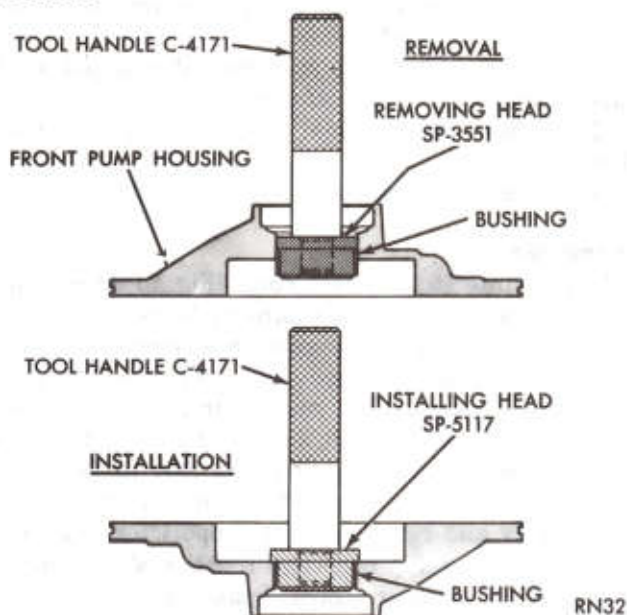
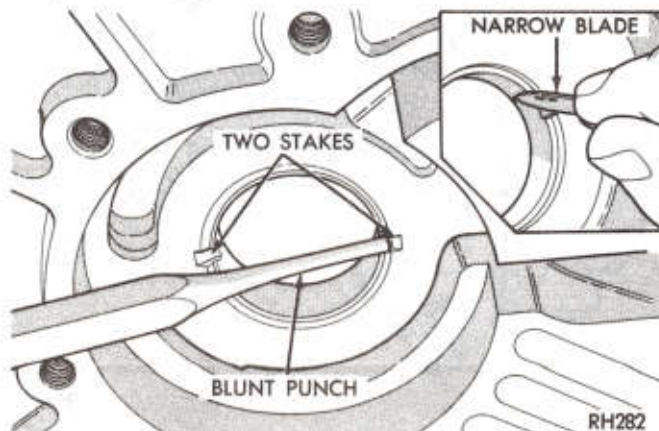

Fig. 10—Replace Pump Bushing (A-904T and A-999)
Fig. 11—Stake Pump Bushing (A-904T and A-999)
(1) Place pump housing (seal face down) on a smooth firm surface.
(2) Place removing head, Tool SP-3551 in bushing and install handle Tool C-4171 in the removing head (Fig. 10).
(3) Drive bushing straight down and out of pump housing bore. Be careful not to cock tool in the bore.
(4) Position new bushing on installing head Tool SP-5117.
(5) With pump housing on a smooth, clean surface, start bushing and installing head in the bushing bore. Install handle in the installing head (Fig. 10).
(6) Drive bushing into housing until tool bottoms in the pump cavity. Be careful not to cock tool during installation.
(7) Stake bushing in place by using a blunt punch or similar tool (Fig. 11). A gentle tap at each stake slot location will suffice.
(8) Using a narrow-bladed knife or similar tool, remove high points or burrs around staked area (Fig. 11). Do not use a file or similar tool that will remove more metal than is necessary.